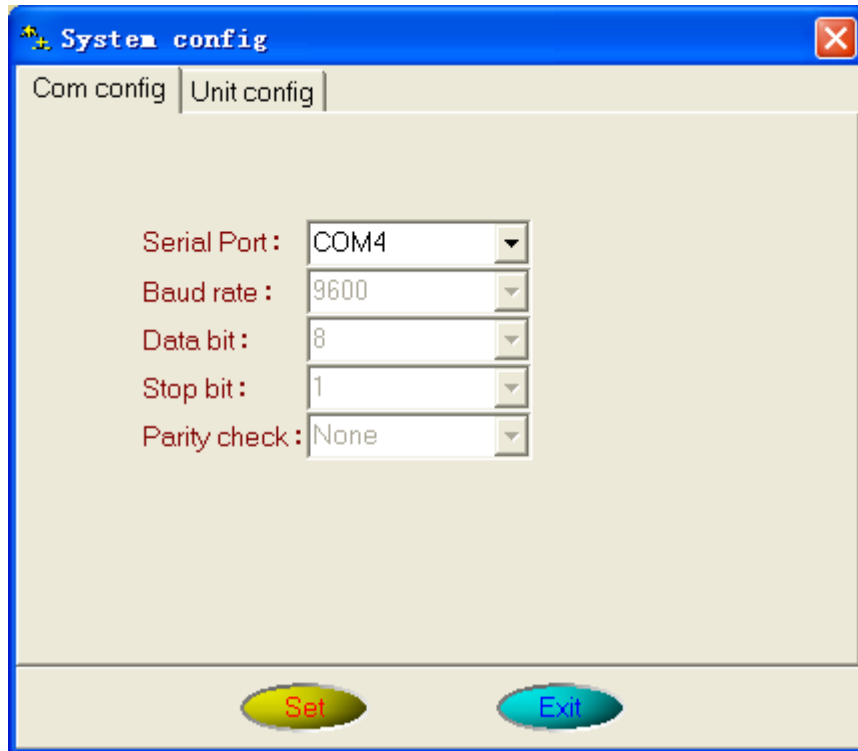

Figure 23 Selecting a Serial Port for Communication
1. Connect the PC to device with an RJ11-DB9 network management cable and select the connected serial port, as shown in Figure 23.